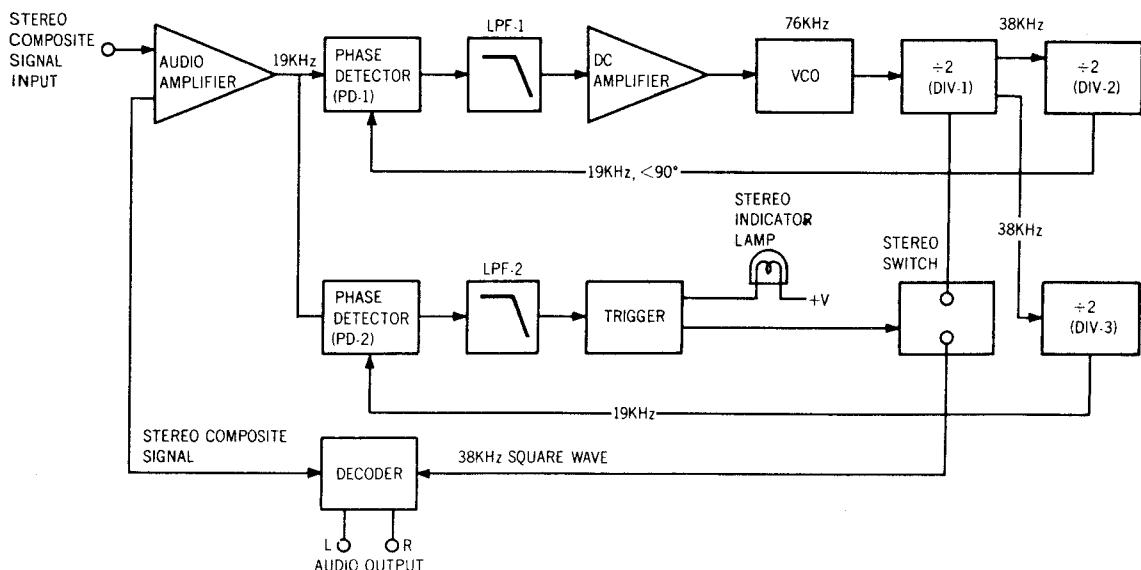

Figure 1. Block Diagram of the HA1156
coupled audio amplifier, where the signals are amplified and fed to output terminals J311 and J313. From these terminals, the audio signals are fed to the TAPE MONITOR OUT jacks through the function switch. Figure 1 presents an internal block diagram showing the functions of the PLL MPX stereo decoding IC HA1156. The input stereo composite signal, amplified by the audio amplifier, is delivered to the phase detectors PD-1 and PD-2. A part of the stereo composite signal is also delivered to the stereo decoder section. The VCO (Voltage Control Oscillator) produces a free run oscillation of approximately 76kHz with the time constant determined by capacitor C305 and resistors R311 and R312 connected on the outside to pin ⑯. The VCO output has its frequency divided down to 19kHz through the two frequency divider stages (DIV-1, DIV-2), and is returned to the phase detector PD-1, which contains two input terminals designed to produce an output in proportion to the product of the two input signals. The signal fed to one PD-1 input is a 19kHz square wave formed through frequency division of the 76kHz VCO output signal by the two frequency divider stages DIV-1 and DIV-2, and the 19kHz pilot signal included in the stereo composite signal, as a reference signal is fed to the other PD-1 input. Therefore, the output of PD-1 which has gone through the low pass filter, LPF-1, provides DC output voltage in proportion to the phase variance between the two inputs. This DC output voltage is amplified by the DC amplifier, and is supplied to the 76kHz VCO as a control voltage. This means that the output frequency and phase of the VCO have been phase-locked to the input pilot signal. The 38kHz sub-carrier reproduced by the PLL, as stated above, is delivered through the stereo switch to the stereo decoder section as a switching signal, thus driving the decoder stage. One of the inputs of PD-2 is given the 19kHz resulting from the frequency division completed by DIV-1 and DIV-3, whereas the other input receives the 19kHz output contained in the composite signal, and the output is provided with a DC component in proportion to the amplitude of the pilot signal.